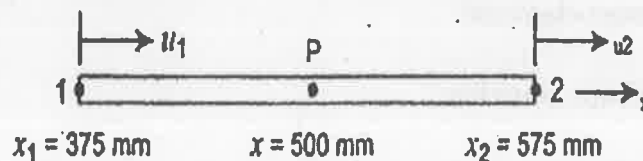

Fig. 2
12. (a) Consider a bar as shown in Figure 2. The cross-sectional area of the bar is 750 mm^2 and Young's modulus is $2 \times 10^5 \text{ N/mm}^2$. If $u_1 = 0.5 \text{ mm}$ and $u_2 = 0.625 \text{ mm}$. Calculate the following ;
- (i) Displacement at point (P) (3)
- (ii) Strain (e) (3)
- (iii) Stress (σ) (3)
- (iv) Element stiffness matrix (k) (2)
- (v) Strain energy (U) (2)